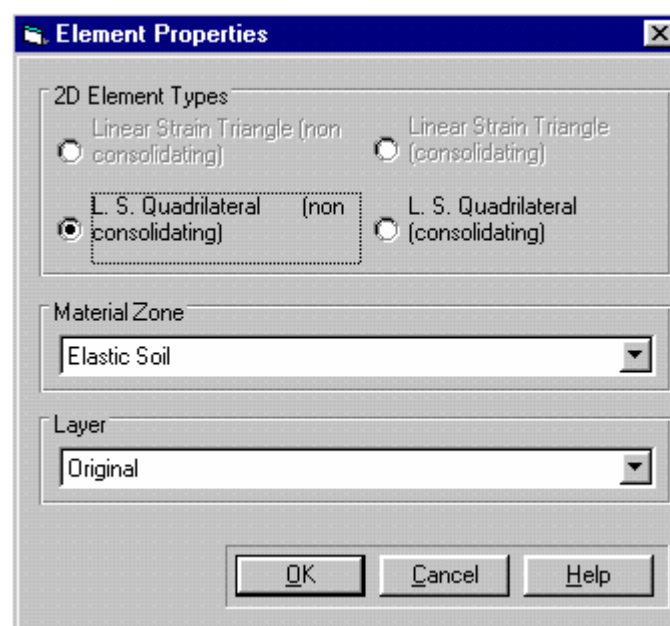

Figure 5-13: Assigning Element types and Material Zones
- Step 5** The Element Properties dialogue box should now look like Figure 5-13.